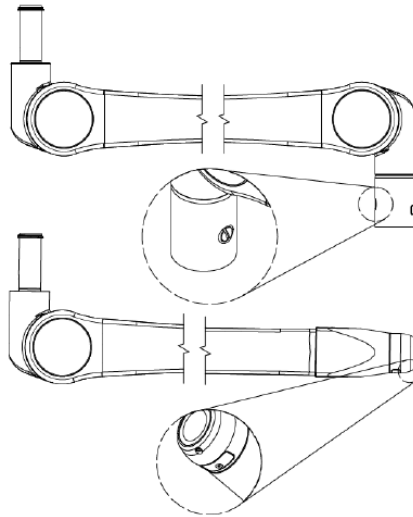

Figure 32: Locations of Brake Screws on Spring Arms
5.4.4. **Brake Adjustment.** Refer to Figure 32 from OASYS Manual 4041013 listed.